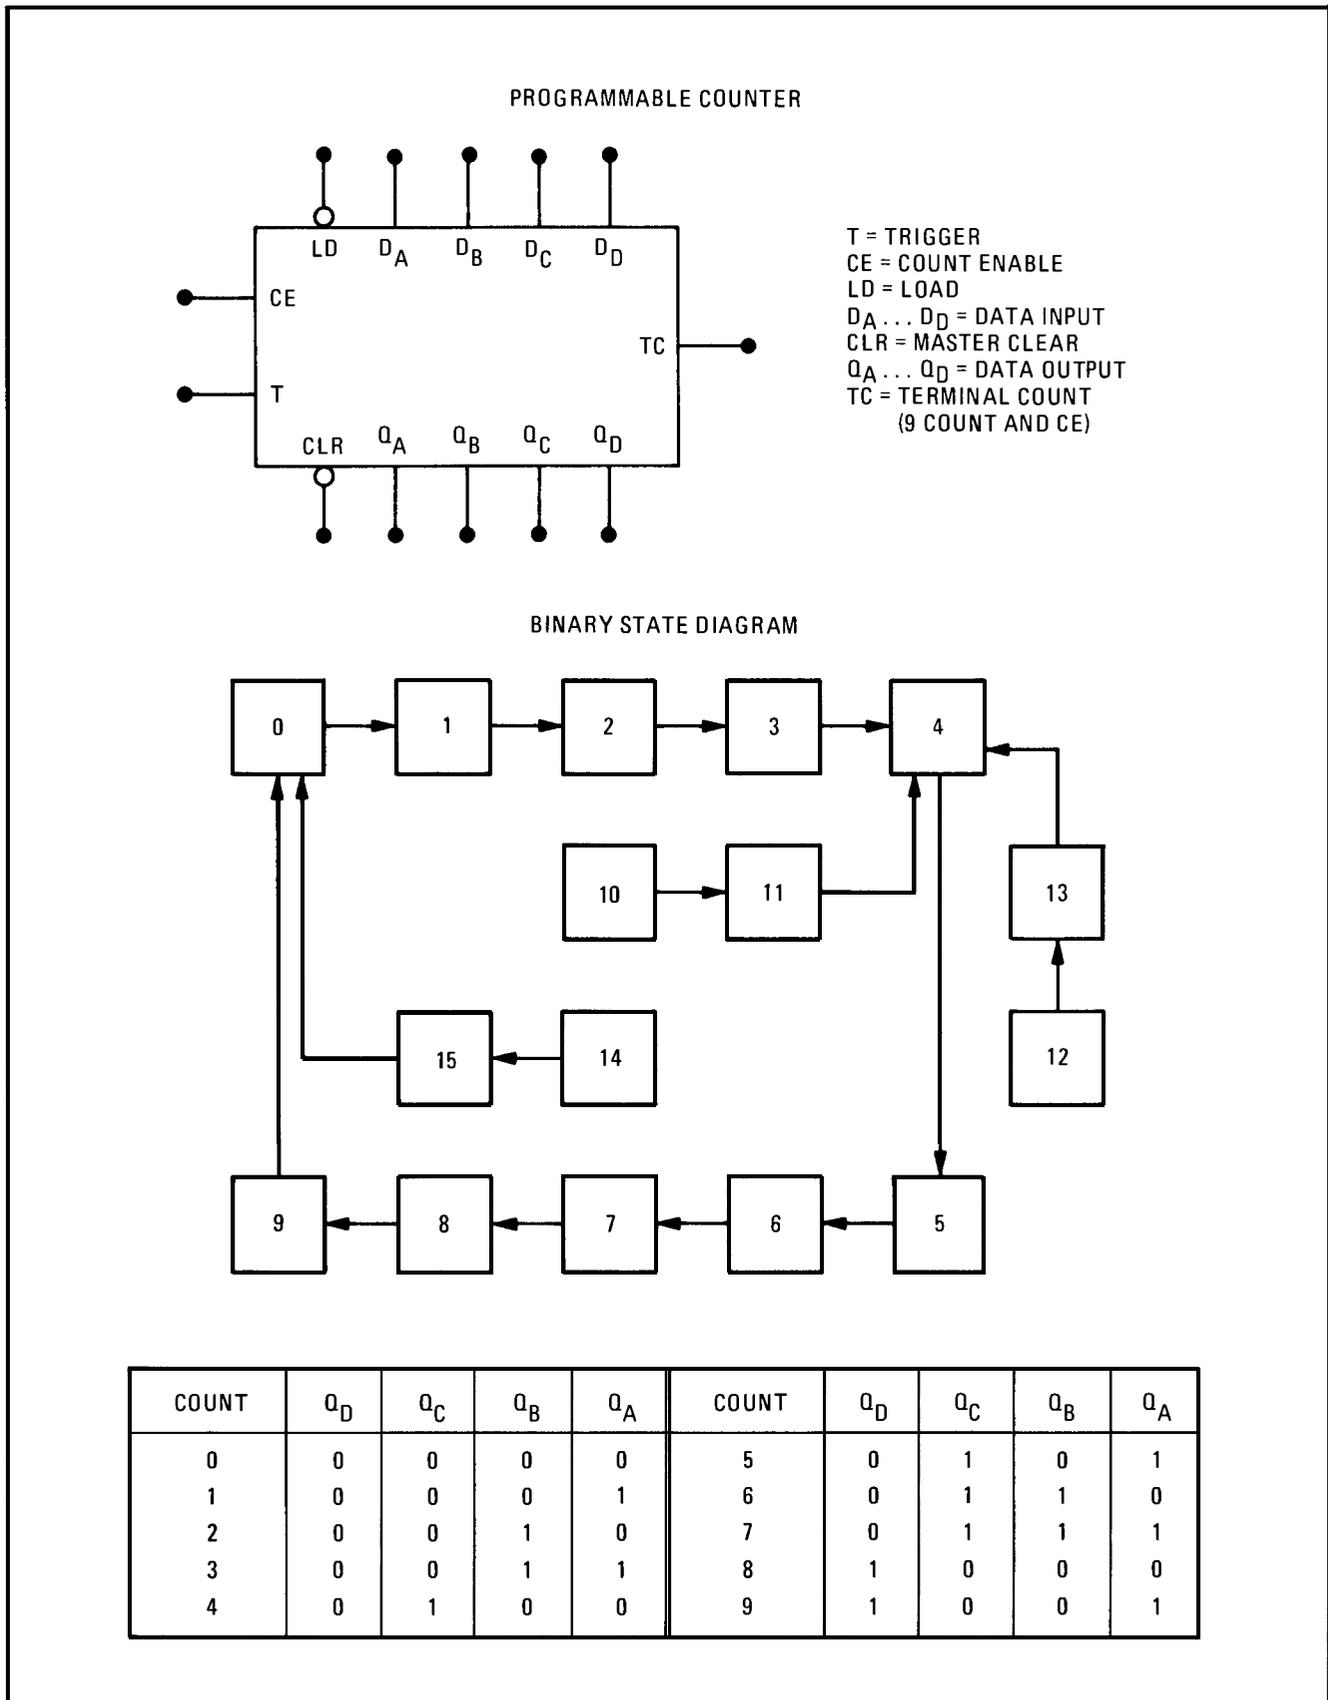

Figure 8-13. Programmable Counter
8-62. Programmable Counter. The programmable decade counter, shown in Figure 8-13, operates similarly to the basic decade counter when the load (LD) input is high. The counter shown has only a single clear (CLR) input which is active-low. When the load input is low, the information at the data (or preset) inputs (DA, DB, Dc, and DD) is transferred to the outputs at the next high going clock (T) input. The outputs remain in the preset state until the load input returns to a high and the